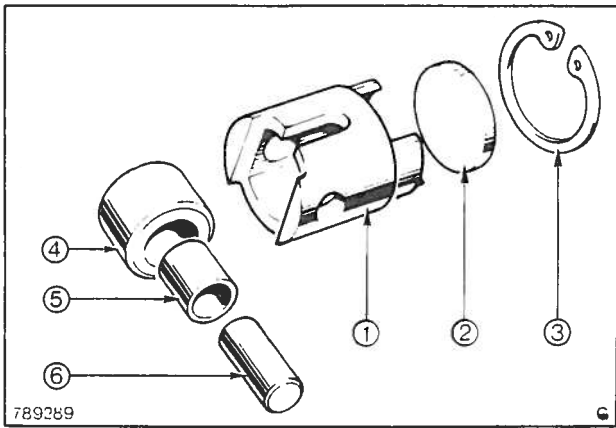

Fig. 12 Tappet assembly
7. Remove the tappet assemblies from the cambox, keeping them in their respective positions with the pumping elements. If the tappets are to be dismantled, push out the roller pin and remove the double rollers. Extract the circlip to enable the phasing spacer to be withdrawn from the tappet body, Fig. 12.